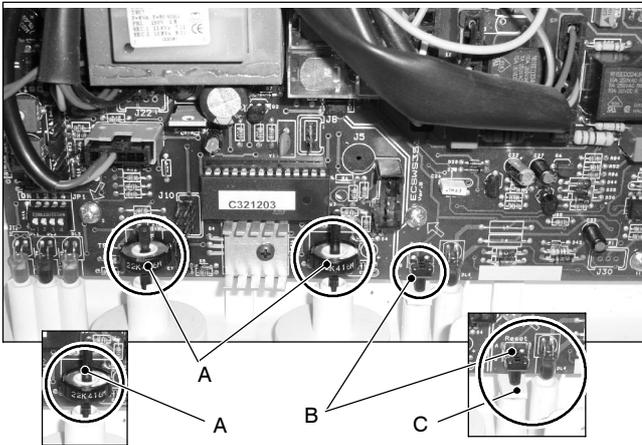

Fig. 29
- 8 Insert the spindles in the control panel knobs until the notch A (Fig. 29) reaches the potentiometer.
- 9 While tightening the screws that fix the Electronic starting control p.c.b. on the control panel, keep the p.c.b. towards the control panel fascia making sure of the contact between the boiler reset button *B* and the tab *C* (Fig. 29).